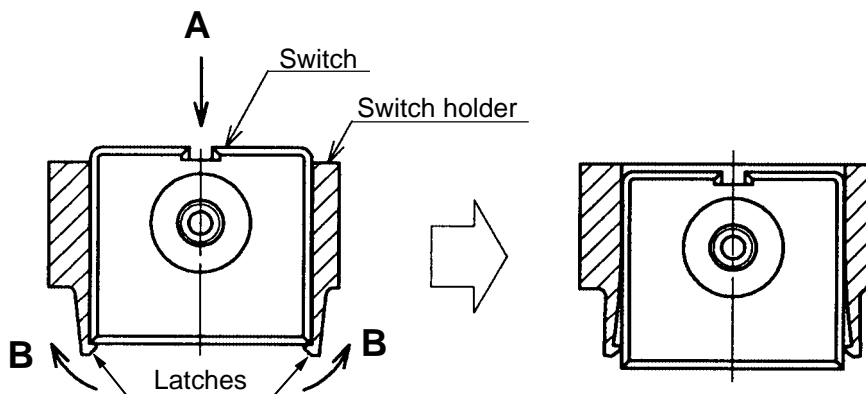

Fig. 7
3. Pressing the Pushing Button Switch [49] <48> in the arrow "A" direction, press the latches of the Switch Holder [50] <49> in the arrow "B" direction with a small flat-blade screwdriver to remove the Pushing Button Switch [49] <48> from the Switch Holder [50] <49> (See Fig. 7).